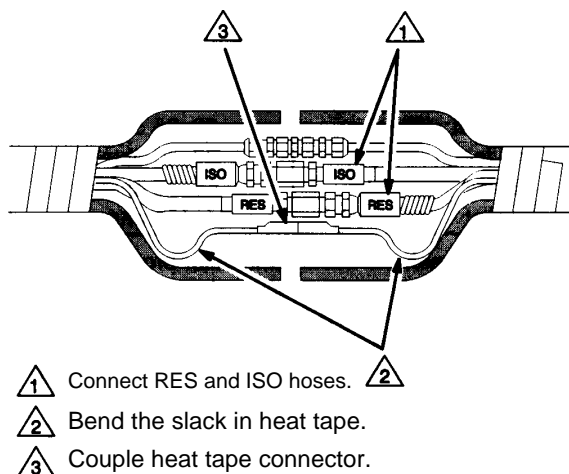
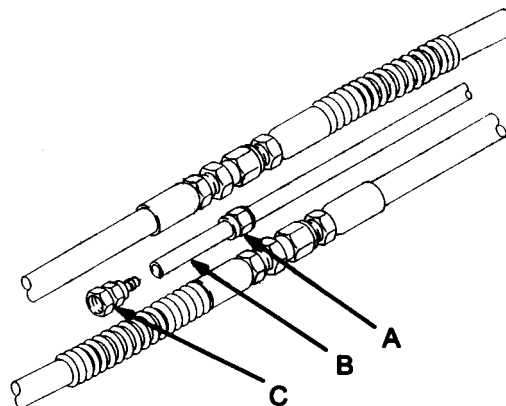

Figure 2
Figure 3
- Cut the uncoupled air hoses (B) to a length that will be easy to couple to the next air hose. See Figure 2.
- Slide the male end of the sleeve (A) over the hose (B).
- Grease the barbed end of the stud (C) and push it into the hose until it seats properly.
- Use an ohmmeter to check the electrical resistance of the two outer prongs of the connector (D) that attaches to the heated hose control. See Figure 3. The resistance for the various lengths of coupled hose assemblies is given in the following coupled hose chart.